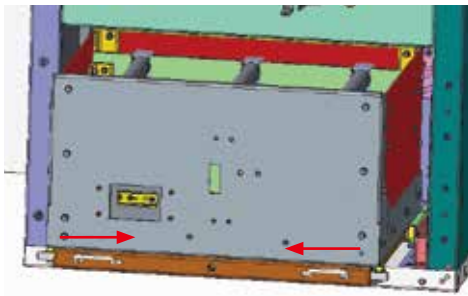

Figure 6.14: Push the two sliding cranks inward
- Push the two sliding cranks inward under the truck and push VT truck into switchgear. (See figure 6.14).